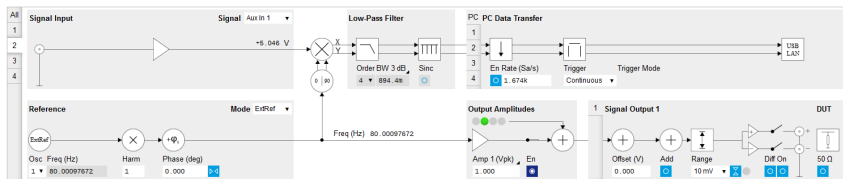

Figure 4.24: Lock-in tab with settings for external reference (with MF-MD option)
**With MF-MD Multi-demodulator option:** Open the graphical Lock-in tab of the second demodulator. We use this demodulator to establish the phase-locked loop (PLL) between the internal oscillator 1 and the external signal. In the Reference section at the bottom left of the Lock-in tab, select ExtRef in the Mode field and select oscillator number 1. In the Signal Input section top left, select Aux In 1 as the input signal. These settings are also shown in Figure 4.24 on page 63 . The frequency of oscillator 1 displayed in the Reference section should quickly converge to the 80 Hz of the chopper. The Lock-in settings for enabling the lock to the external reference with MF-MD Multi-demodulator option are shown in Table 4.6 on page 63 .